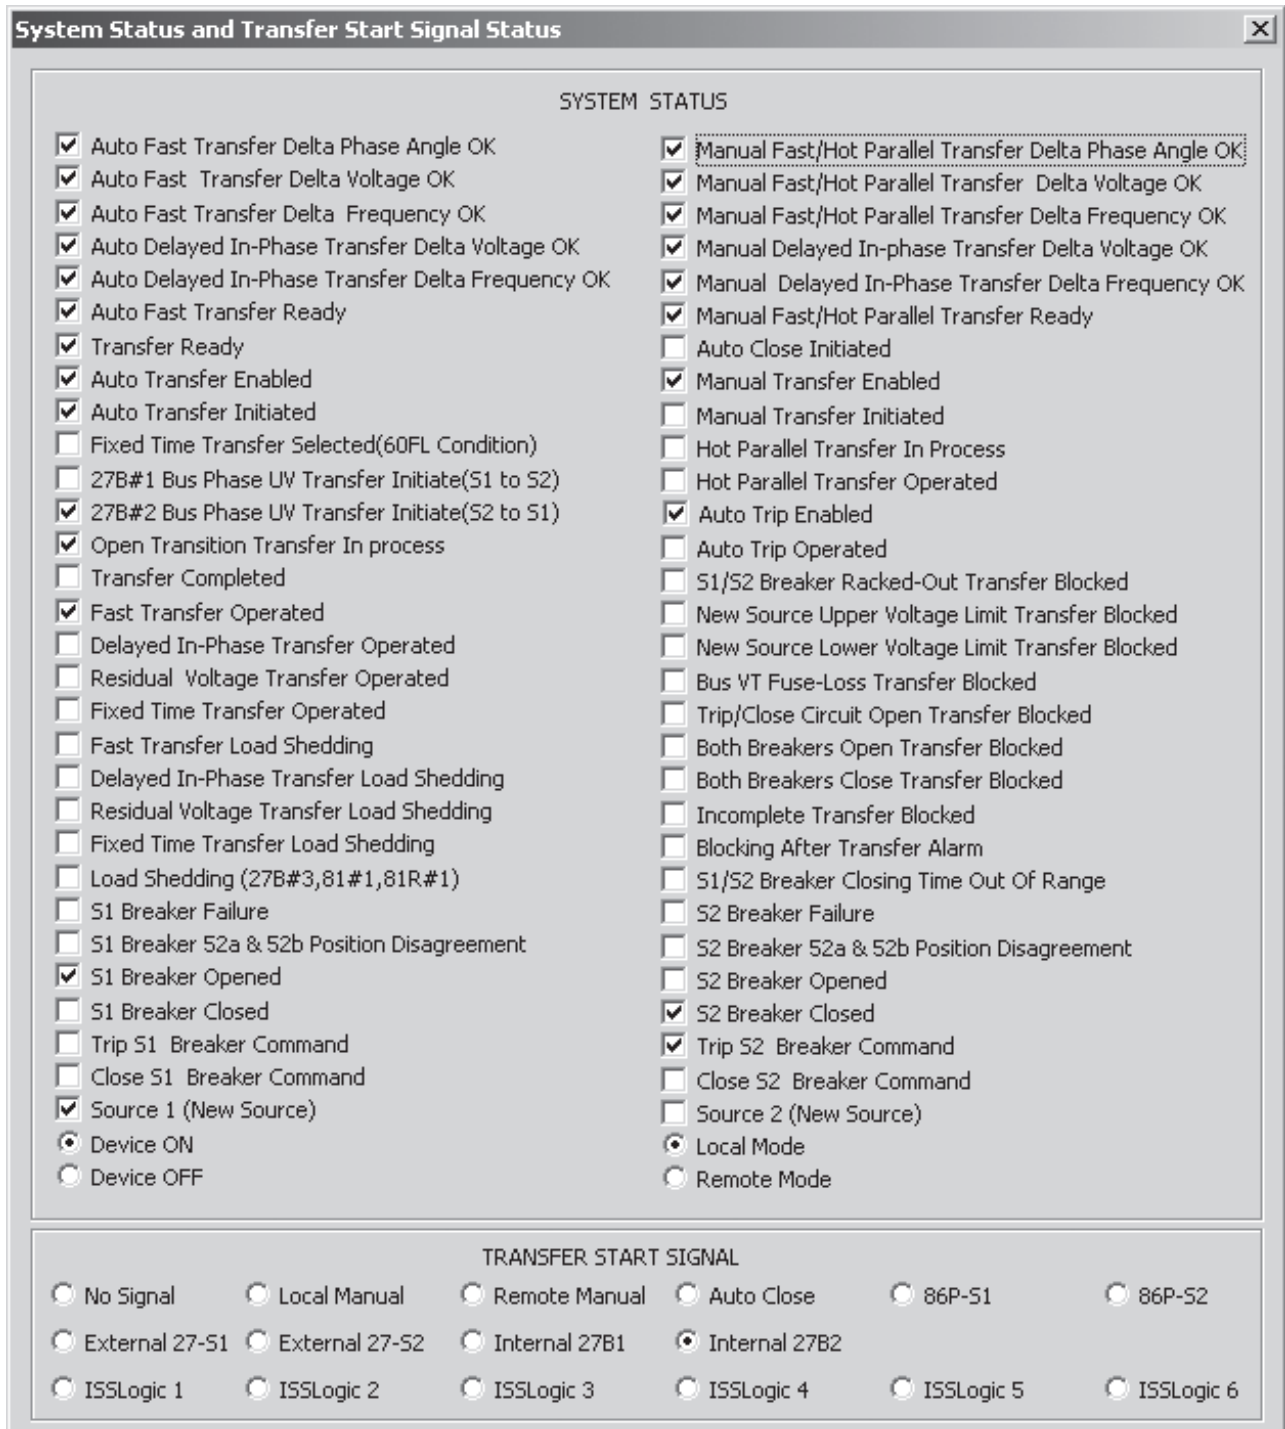

Figure 3-25 System Status and Transfer Start Signal Status Screen
8. To view the System Status and Transfer Start Signal information select **System Status and Transfer Start Signal**. ISScom will display the System Status and Transfer Start Signal Status screen (Figure 3-25).